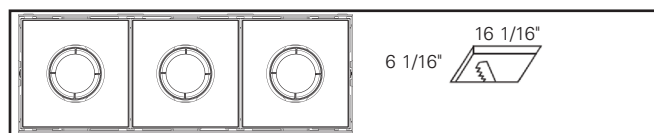

Figura 1.11.
- Tres luces: 16 1/16 in X 6 1/16 in (Figura 1.11)